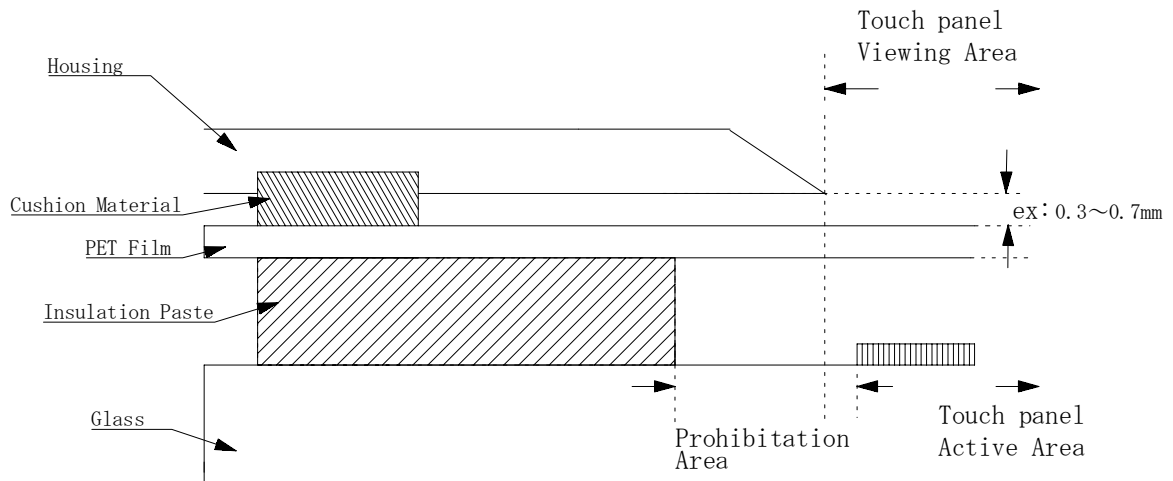

Fig.1
- 2) Consider your housing edge position to keep 1.0mm distance from this paste line. (See.Fig.1)
The reason is to avoid the bezel edge from contacting T/P surface that may cause a "short" with bottom layer. (See.Fig.1)